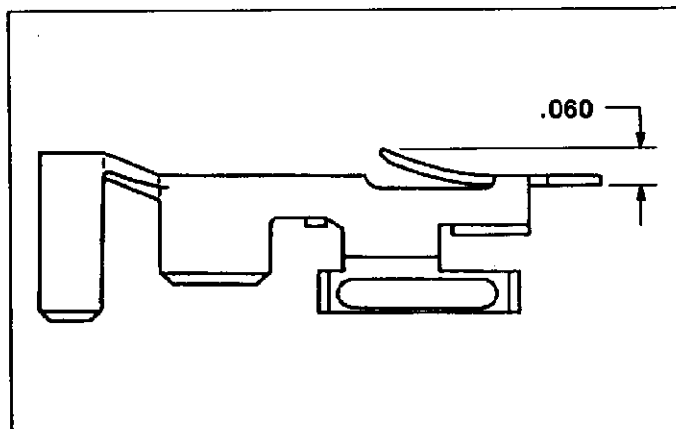

Fig. 4
7. Using a micrometer or vernier caliper, measure reset dimension of locking lance. Dimension should measure $.060 + .010 / -.005$ as shown in Figure 4.